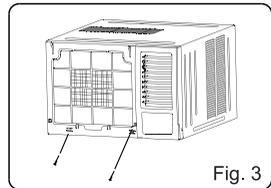

Fig. 3
1. Remove the two fixed screws from the frame. (see Fig.3)
2. Fix the screws on the frame. (see Fig.3)